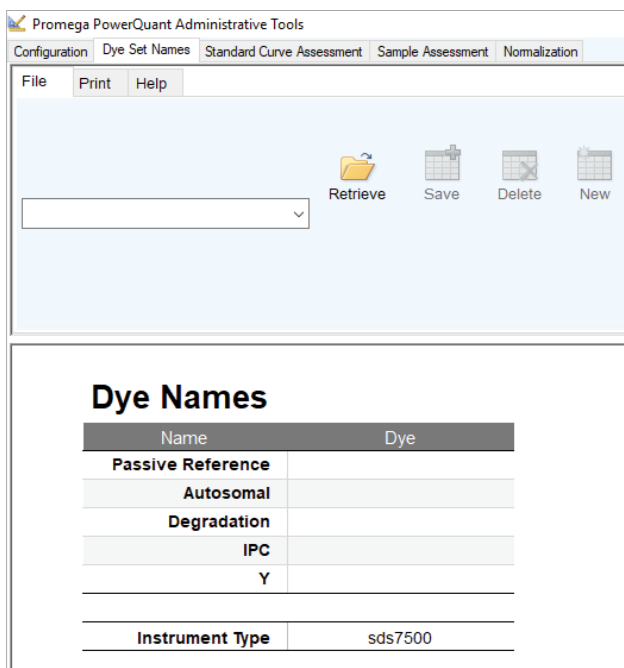

Figure 65. The 'Dye Set Names' tab.
1. Select the 'Dye Set Names' tab (Figure 65).